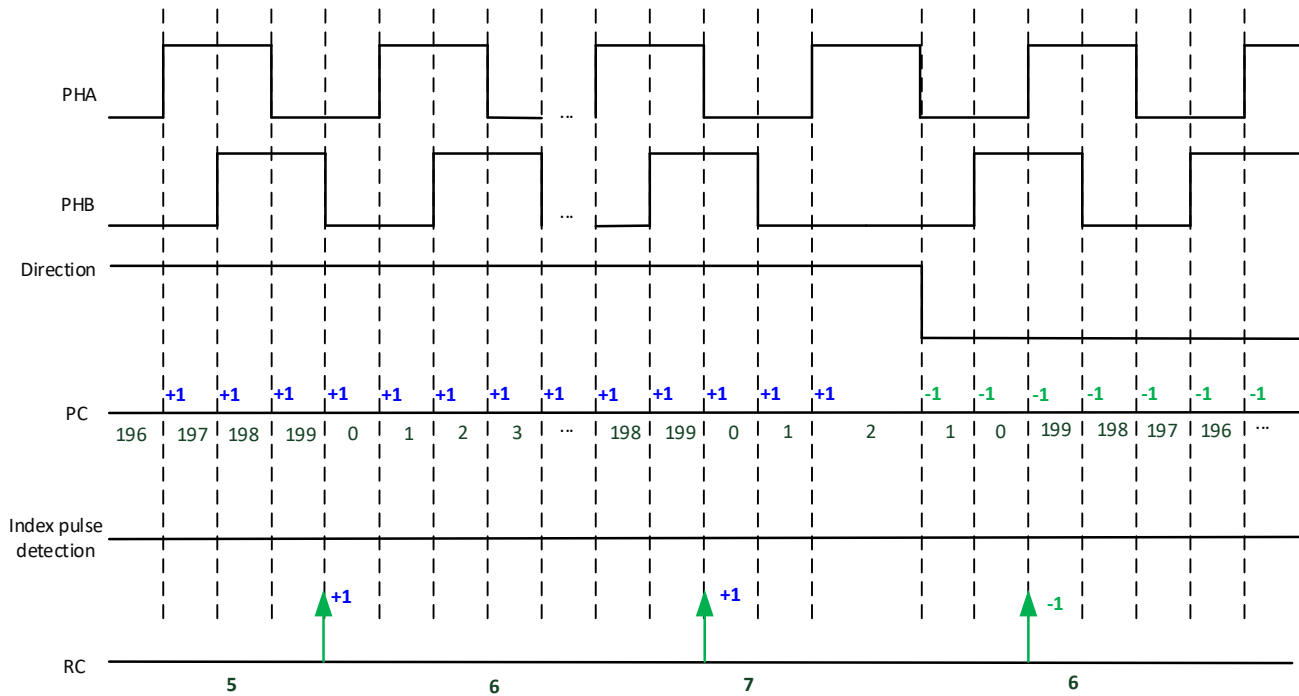

Fig 21-13 Rotation count when RC_MOD = 1
- If the index pulse signal is disabled (depending on IDX_EN) or the rotation counter mode is 1 (depending on RC_MOD), this rotation counter increases or decreases by 1 when every position counter overflow (+1) or underflow (-1) occurs. Fig 21-13 illustrates this case.